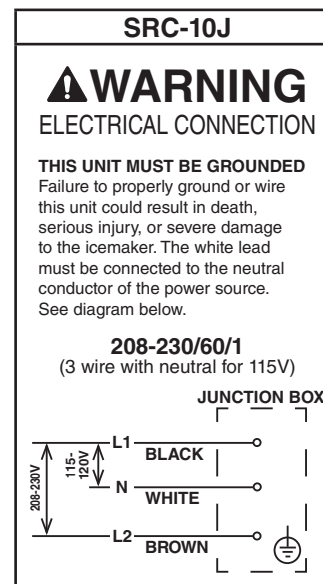

Fig. 9
- Electrical connection must be made in accordance with the instructions on the "WARNING" tag, provided with the pig tail leads in the remote condensing unit control box. See Fig. 9.